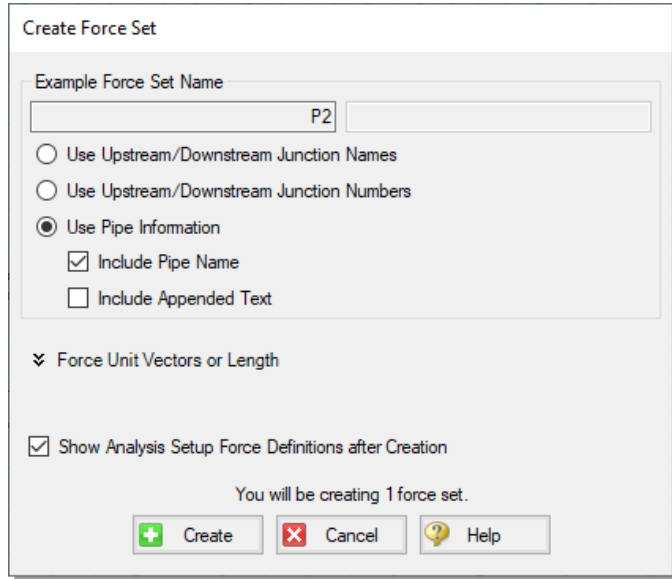
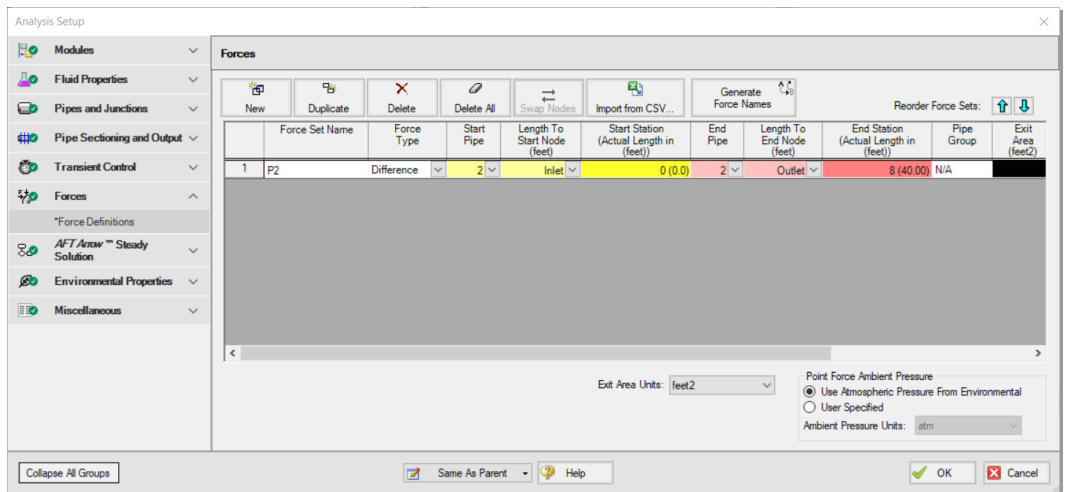

Figure 5.2 Adding force set from Workspace using the right-click menu
Figure 5.3 High Pressure Steam System Force input in the Analysis Setup window
- **On the Workspace, right-click on pipe P2** and from the right-click menu select "Create a Force Set with Selected Pipe." Select the Use Pipe Information radio button and uncheck the "Include Appended Text" option (Figure 5.2). Click Create. This will open the Force Definitions panel of the Analysis Setup window. The Force Definitions panel should appear as shown in Figure 5.3.